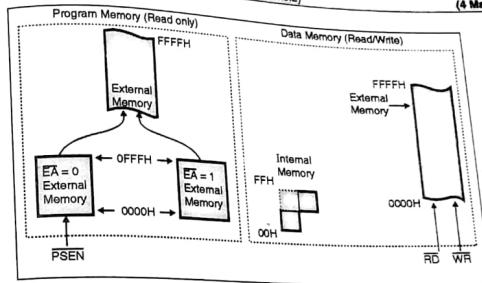

Fig. 8.2.1 : Memory structure of 8051
- Fig. 8.2.1 shows the basic memory structure for microcontroller 8051. It can access upto 64 KB of program memory and 64 KB of data memory. It has 4 KB of internal program memory and 256 bytes of internal data memory.